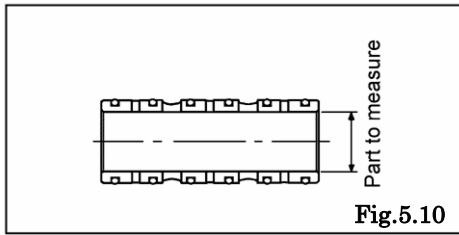

Fig.5.10
- Sleeve [Fig.5.10]
- O rings [Fig.5.10]